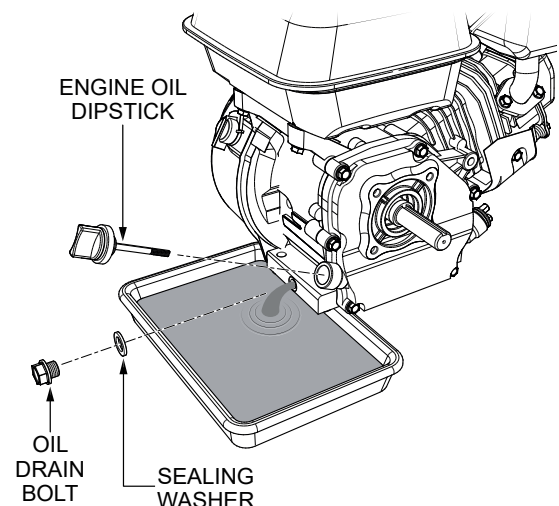

Figure 32. Draining Engine Oil
2. Drain the engine oil when the oil is warm as shown in (Figure 32).